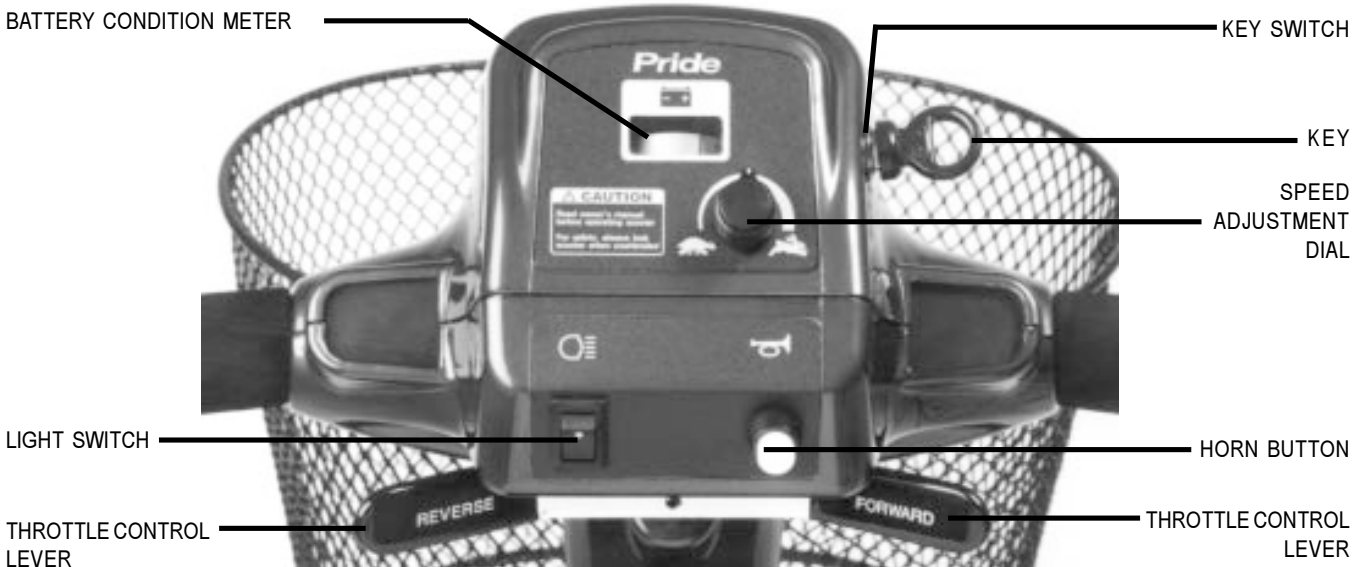

FIGURE 6. CONTROL CONSOLE ASSEMBLY
The control console assembly houses all the controls you need to drive your Vista, including the key switch, the speed adjustment dial, the throttle control lever, the battery condition meter, the horn button, and the light switch. See figure 6.
7. You can, if you wish, periodically check the battery condition meter by inserting the key in the key switch, examining the battery condition meter, and then removing the key. See figure 6. As the batteries charge, the battery condition meter approaches the 100% reading.